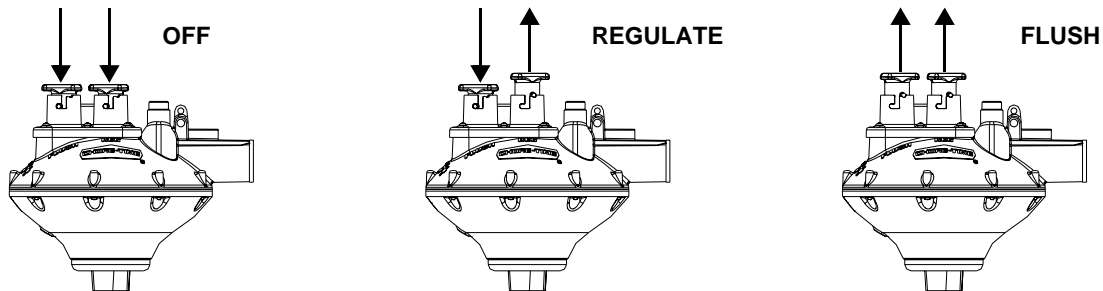

Figure 17. Mode Settings
The CHORE-TIME® Water Regulator has three (3) selectable modes for operating the watering regulator (OFF, REGULATE, and FLUSH). The modes are selected by using the individual REGULATE and FLUSH control knobs, see figure 17.